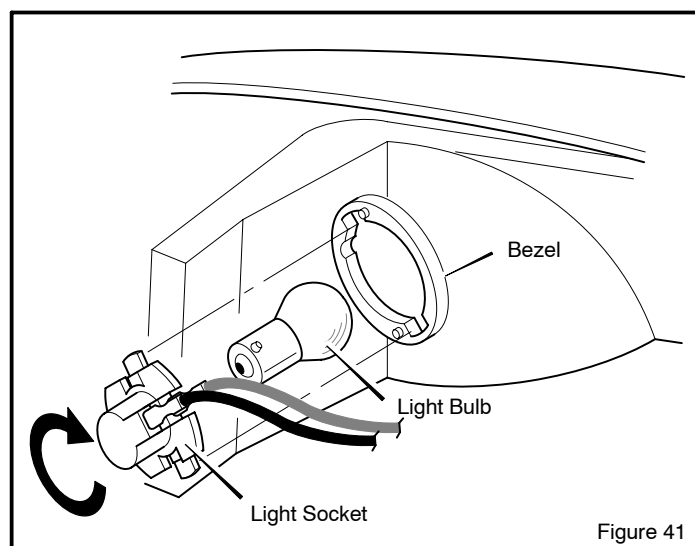

Figure 41
2. Turn the **light socket** until the tabs on the socket align with the notches in the **bezel** (Figure 41). Remove the **light socket**. Turn the **light bulb** and remove the bulb.